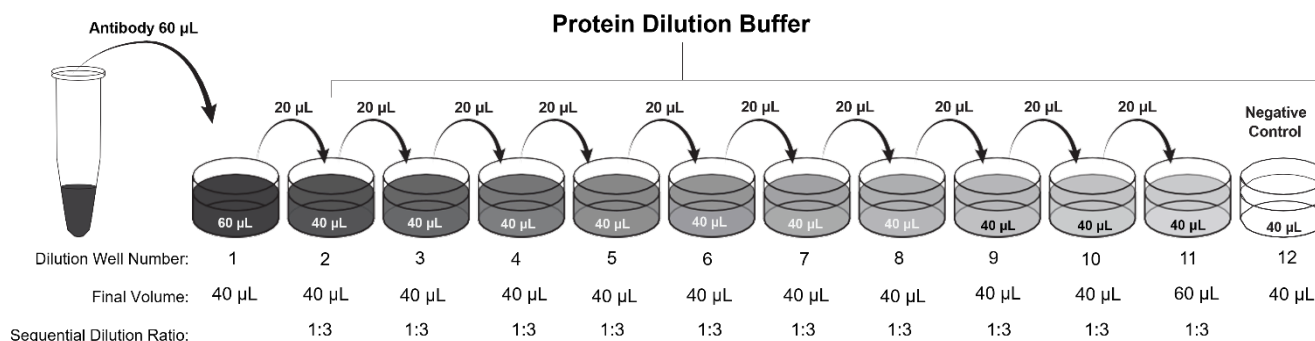

Figure 10. Compound serial dilutions – Anti-Ligand Antibody
1. Prepare an 11-point series of 3-fold anti-ligand antibody serial dilutions in Protein Dilution Buffer (PDB) in a separate dilution plate or vials, following the workflow below (Figure 10).
- d. Add 60 μ L of the highest concentration of antibody to well number 1 (Figure 10).